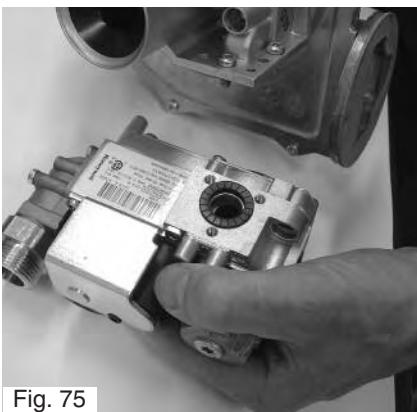

Fig. 75
5. Remove the gas valve from the venturi. (Fig. 75);